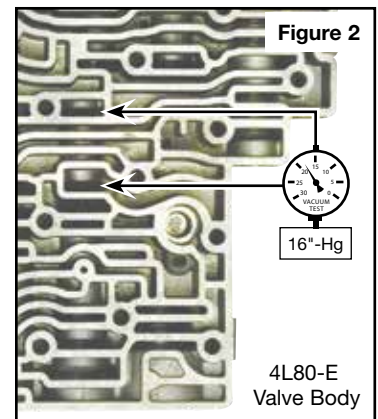

Figure 1
- Place selected Sonnax spring (**Figure 1**) over long stem on TCC valve.